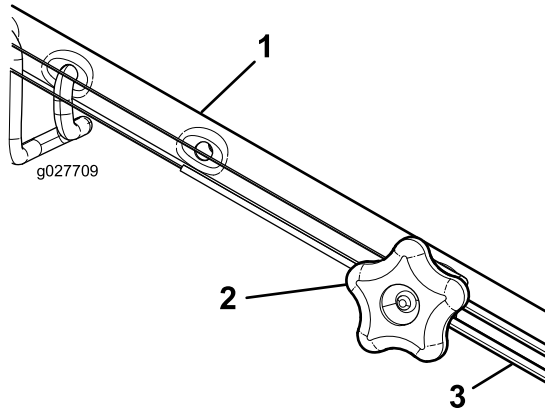

Figure 39
1. Turn the adjustment knob counterclockwise to loosen the cable adjustment (Figure 39).
2. Adjust the tension on the cable (Figure 39) by pulling it back or pushing it forward and holding that position.